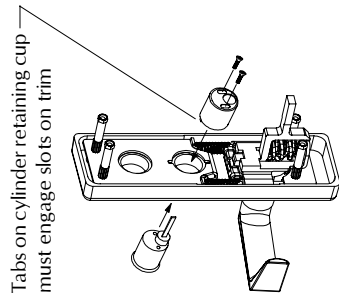

Figure 1
- Prepare trim: If necessary, change handing (see other side). For L function trim only, install cylinder (Figure 1).